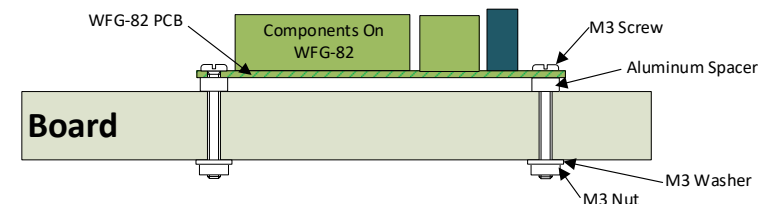

Figure 5 Mounting Suggestion
- (5) Mount the unit to your baseboard using the four M3 metric screws, nuts and spacers provided. The component side of the module should face away from the board as in Figure 5. If you omit the spacers be sure not to tighten screws so that the unit bends. Take care that no part of the unit touches any metal as this may cause a short circuit and result in permanent damage. Do not mechanically stress or bend the module as this may cause permanent damage. **Take care to ensure that there is adequate ventilation to avoid overheating.**